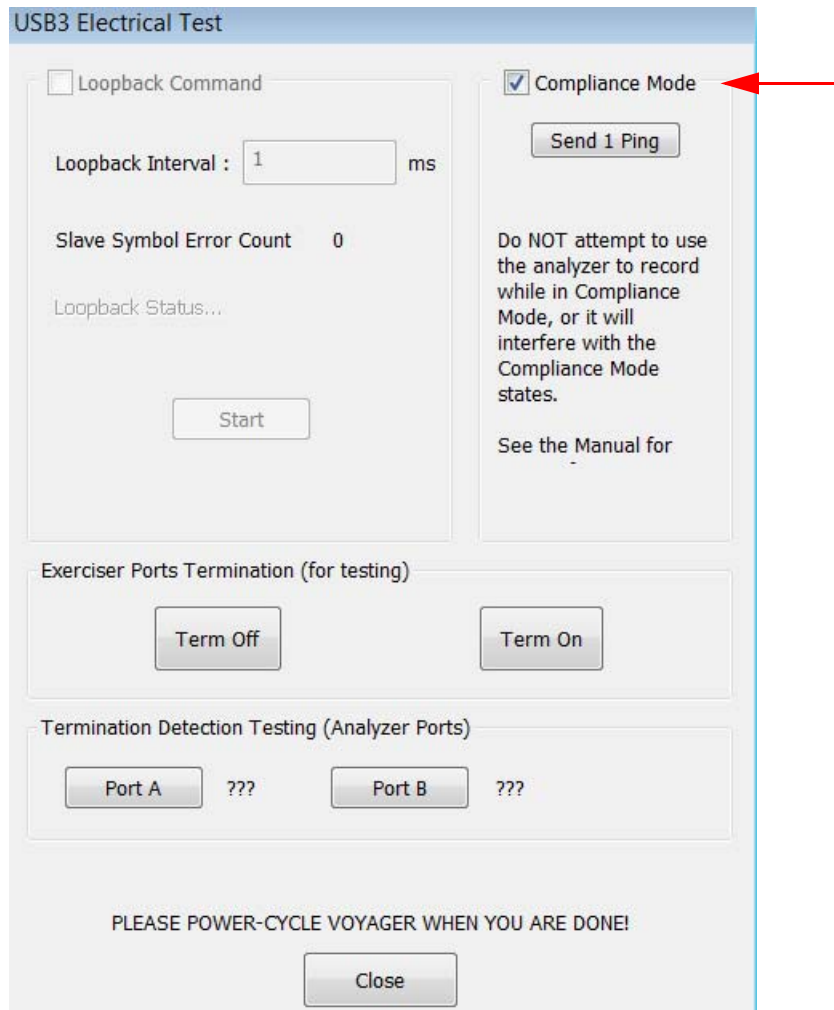

Figure 12.20: USB 3.0 Electrical Test Dialog
4. In the USB 3.0 Electrical Test dialog, check the **Compliance Mode** box (see Figure 12.20 on page 395.)